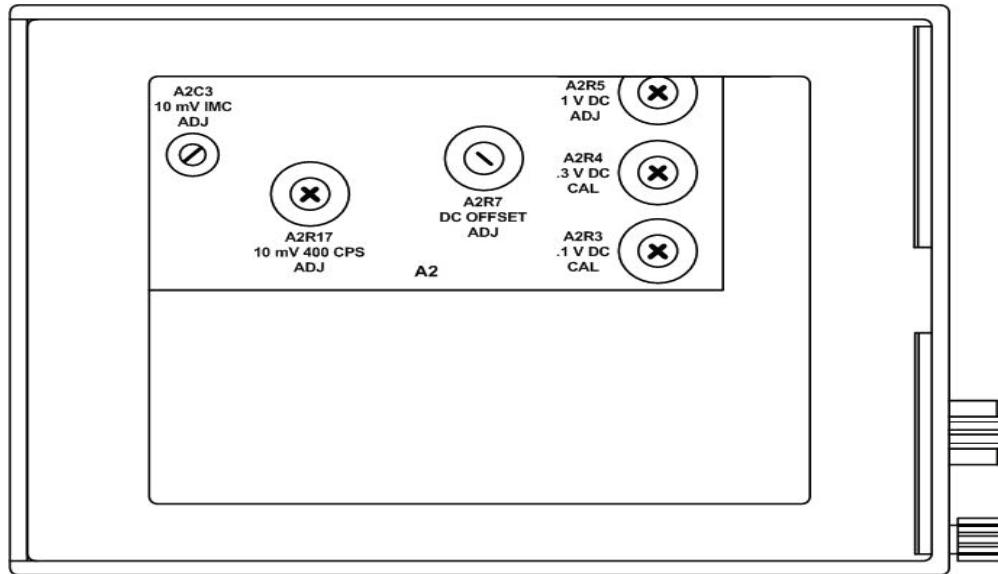
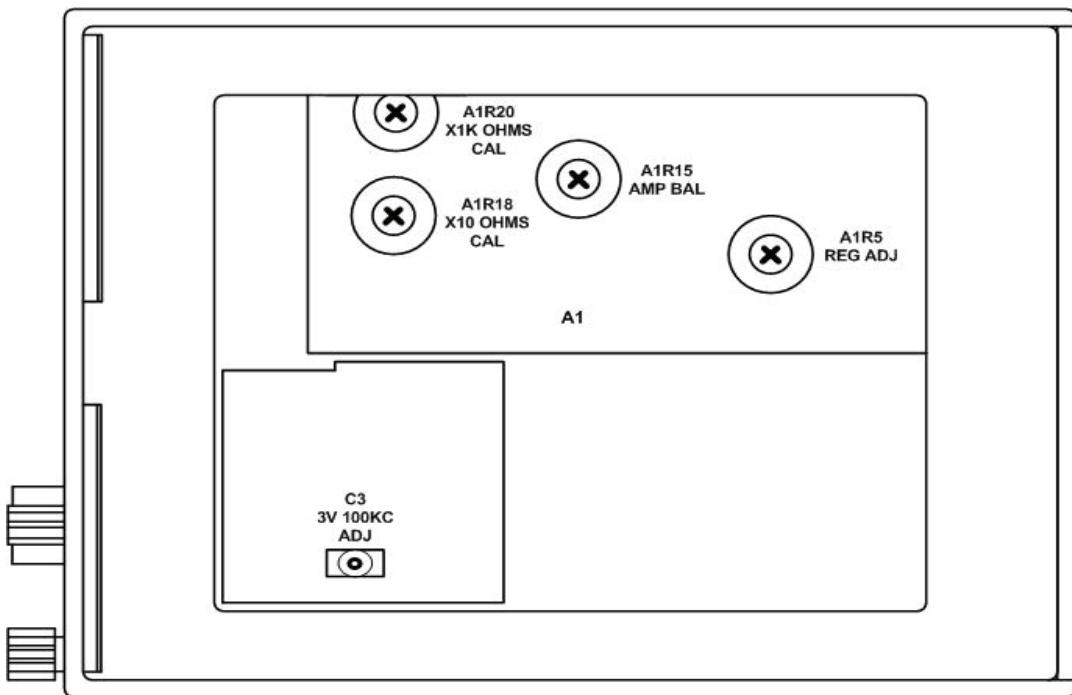

Figure 1. Voltmeter - left view.
Figure 2. Voltmeter - right view.
- (1) Adjust A2R7 DC OFFSET ADJ (fig. 1) until TI meter indicates zero (R).
- (2) Repeat **a** (2) through (4) above.
- (3) Adjust A1R15 AMP BAL (fig. 2) while repeating **a** (5) and (6) above until meter indication is the same in both steps (R).
- (1) Turn **FUNCTION** switch to **+DCV**.
- (2) Short **VOLTS** terminal to **COM** terminal, and **OHMS** terminal to **COM** terminal, using two leads (B2).
- (3) Adjust **DC ZERO/Ω∞** control for zero indication on top scale.
- (4) Turn **FUNCTION** switch to **OHMS**. If meter does not indicate zero, perform **b** below.
- (5) Remove shorts connected in (2) above.
b. Adjustments. Adjust A1R5 REG ADJ (fig. 2) while turning **FUNCTION** switch between **OHMS** and **+DCV** until meter indication is the same in both **OHMS** and **+DCV** positions (R).
- (1) Adjust calibrator to 0.100 volt.
- (2) Adjust A2R3 .1V DC CAL (fig. 1) until TI meter indicates 1 on 0 to 1 scale (R).
- (3) Adjust calibrator to 0.300 volt.
- (4) Adjust A2R4 .3V DC CAL (fig. 1) until TI meter indicates 3 on 0 to 3 scale (R).
- (5) Adjust calibrator to 1.00 volt.
- (6) Adjust A2R5 1VDC ADJ (fig. 1) until TI meter indicates 1 on 0 to 1 scale (R).
(1) Adjust calibrator to 10.000 millivolts.
(2) Adjust A2R17 10mV 400 CPS ADJ (fig. 1) until TI meter indicates 1 on 0 to 1 scale (R).
(3) Adjust function generator frequency to 1 MHz and output for zero reference on expand scale.
(4) Adjust A2C3 10mV IMC ADJ (fig. 1) until TI meter indicates 1 on 0 to 1 scale or best in-tolerance condition (R).
(5) Adjust function generator frequency to 100 kHz and output for zero reference.
(6) Adjust C3 3V 100KC ADJ (fig. 2) until TI meter indicates 3 on 0 to 3 scale (R).